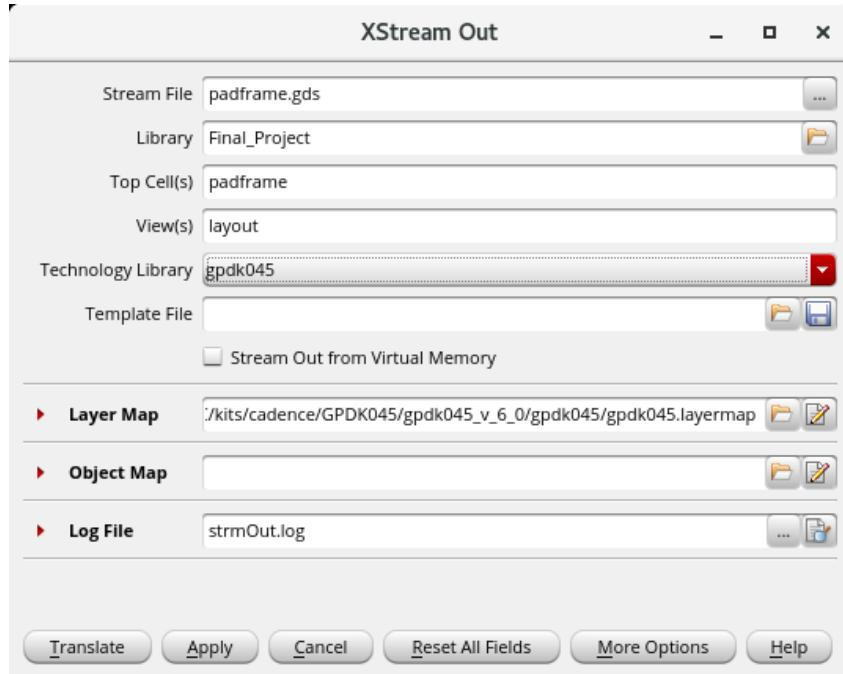

Figure 40: Exporting the Final GDSII File from Virtuoso
2. The **XStream Out** window will pop up, as shown in Figure 40.